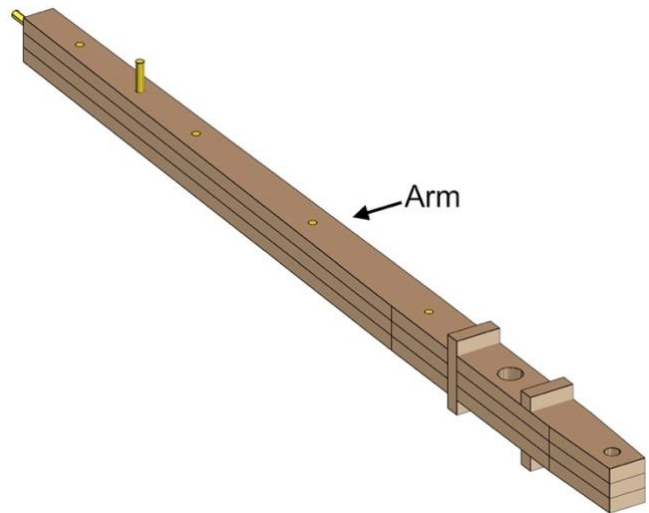

Fig. 66
- *Fig. 66* shows the completed process.